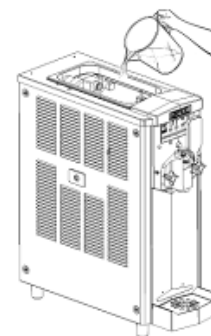

Fig. 43
- Fill the top tank with hot water (Fig. 43) and wait a few minutes.